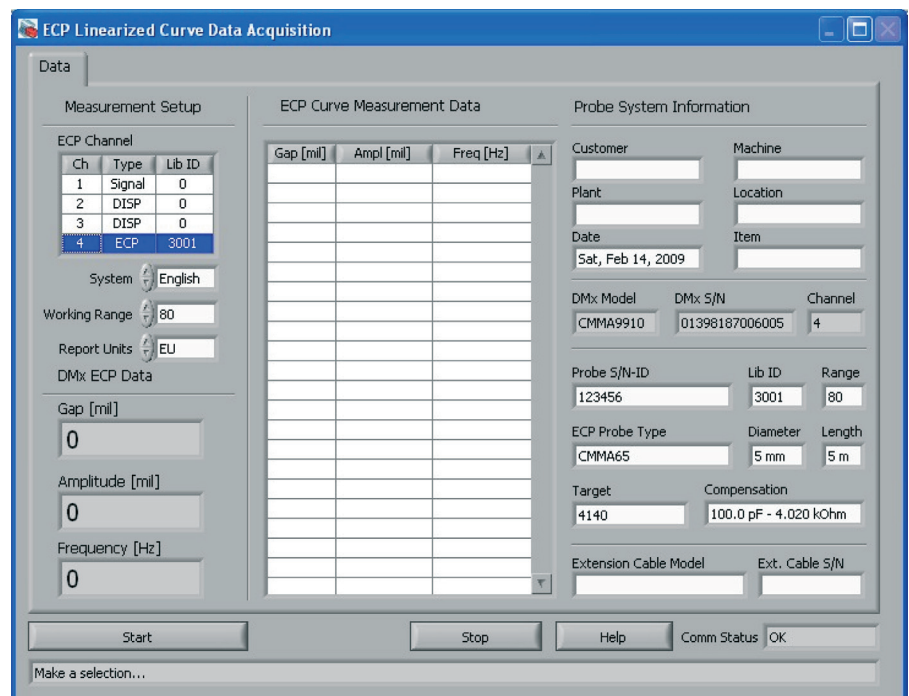

Fig. 6. ECP Linearized Curve Data Acquisition dialog.
- **Linearization Curves:** the dialog in fig. 6 then displays